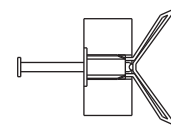

Fig. 5
- 6 Use nail or small screwdriver to pop anchor open behind hollow wall (Fig. 5; not necessary for thick or solid walls).